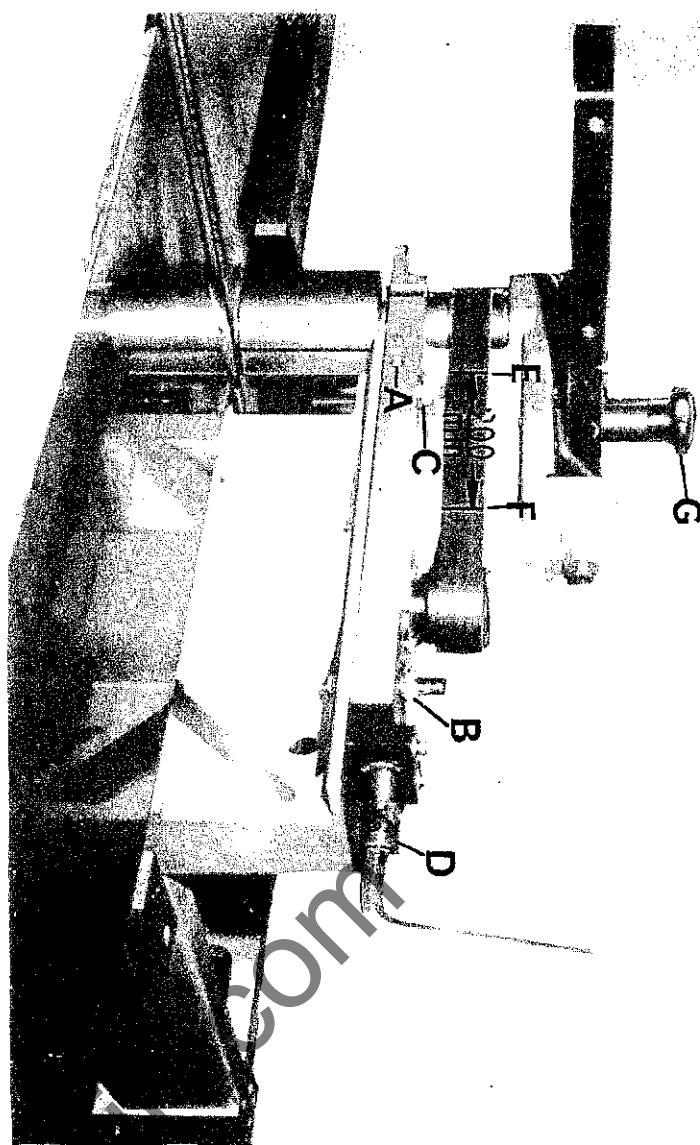

FIG.32
- f) Loosen grub screw "A" FIG.32 on planer side only, 1 full turn.
- g) Loosen 1 - M12 nut "B", 2 - M10 hexagon head bolts "C" FIG.32 (1 either side of housing) and using allen key, adjust caphead screw "D" to tension belt.
- h) Correct tension will have been achieved when 200mm can be measured between points "E" and "F" FIG.32 on belt.
IMPORTANT: DO NOT REMOVE LOCKING HANDWHEEL "G" FIG.32 WHEN FEED UNIT IS REMOVED.
- i) Loosen grubscrew "A" FIG.32 on planer side only, 1 full turn.
- j) Loosen 1 - M12 nut "B", 2 - M10 hexagon headbolts "C" FIG.32 (1 either side of housing) and using allen key "D" release tension.
- l) Tension belt by caphead screw "D" FIG.32. Correct tension will have been achieved when 200mm can be measured between points "E" and "F" FIG.32 on belt.